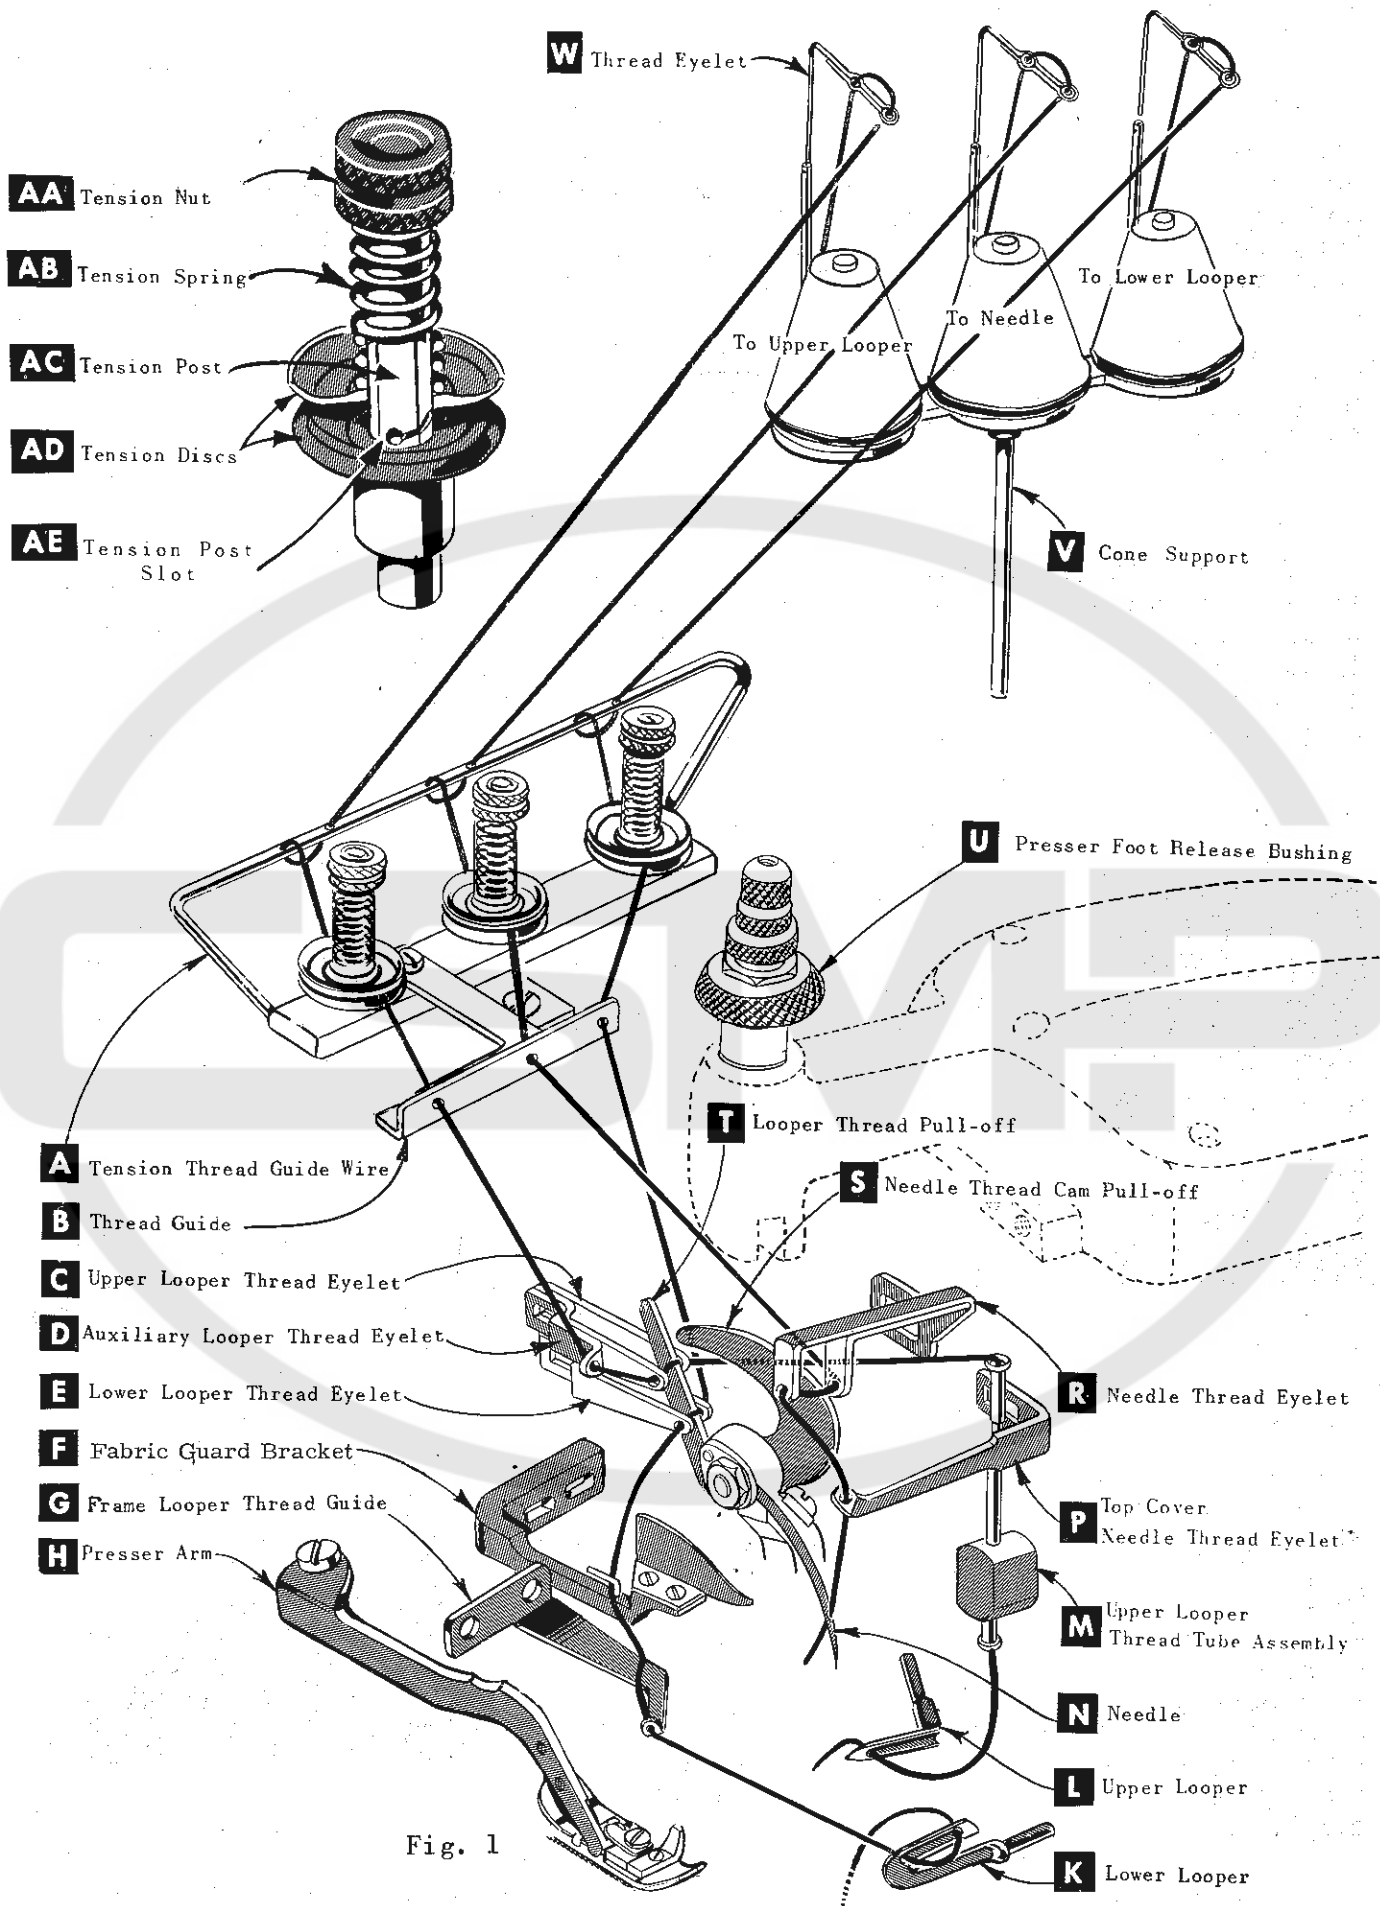

Fig. 1
Release pressure on presser foot by turning presser foot release bushing (U, Fig. 1) and swing presser arm (H) out of position. Turn handwheel in operating direction until needle is at its lowest point of travel. Using hexagonal socket wrench No. 21388 AS, furnished with machine, loosen needle clamp nut about 1/4 turn. Again turn handwheel until needle is at high position; withdraw needle.
After thread comes from cone on thread stand (V, Fig. 1), it is brought up through back thread eyelet, then down through front thread eyelet (W). Next it is threaded through each pair of holes in tension thread guide wire (A), down right hand hole and up through left hand hole. Then thread continues between tension discs (AD), through slot (AE), and on through thread guide (B).
Only parts involved in threading are shown in threading diagram (Fig. 1). Parts are placed in their relative positions for clarity.
Double end of thread and lead it through both eyes of lower looper thread eyelet (E, Fig. 1) from right to left. Note: thread must pass in front of looper thread pull-off (T). Lead thread behind fabric guard (F) and through both holes of frame looper thread guide (G). Turn handwheel in operating direction until heel of lower looper (K) is all the way to the left; then thread through both eyes from left to right. Left eye of lower looper can be threaded easily if tweezers are in left hand.
Turn handwheel in operating direction until needle (N, Fig. 1) is at its highest position. Insert needle thread from right to left, through both eyes of needle thread eyelet (R), under neck of top cover casting; then down through hole in top cover needle thread eyelet (P). Thread needle from front.
The amount of tension on needle and looper threads is regulated by three knurled tension nuts (AA, Fig. 1). Tension on threads should be only enough to secure proper stitch formation.
Be sure machine is threaded according to threading diagram (Fig. 1, page 7). With thread tensions light, set looper thread eyelets (C & E) about horizontal and in the middle of their front to back locations. Operate machine slowly, without presser foot in place, to make sure that chain forms and moves off the tongue freely. Swing presser foot into position, insert material, and sew slowly.
While sewing on material, check needle thread control as follows: Usually all needle thread is drawn on needle down stroke. At top of needle stroke, thread should be just tight enough to feed chain off stitch tongue. Stitch tends to pull down slightly if excessive thread is pulled on the up stroke. With needle at bottom of stroke, position needle thread eyelet (R, Fig. 1) so that needle thread cam pull-off (S) just contacts needle thread.
With material under presser foot, set lower looper thread eyelet (E, Fig. 1) back far enough so thread is a little slack when looper thread pull-off (T) reaches its most rearward position. Looper thread pull-off (T) is set about 1/8 inch distance behind needle thread cam pull-off (S). Frame looper thread guide (G) should be set with its left hand eyelet approximately 1/8 inch right of lower looper (K) heel eyelet at the time lower looper is at extreme left end of its travel.
Before proceeding to adjust upper looper thread eyelet (C, Fig. 1) balance all three tensions to give a normal appearing stitch. Moderate change in these tensions will not markedly effect the purl.
To move the purl more under the edge, both looper thread eyelets (C & E, Fig. 1) should be raised keeping the same amount of pull-off. Usually it is better to have slightly more pull-off on upper thread than on lower thread.